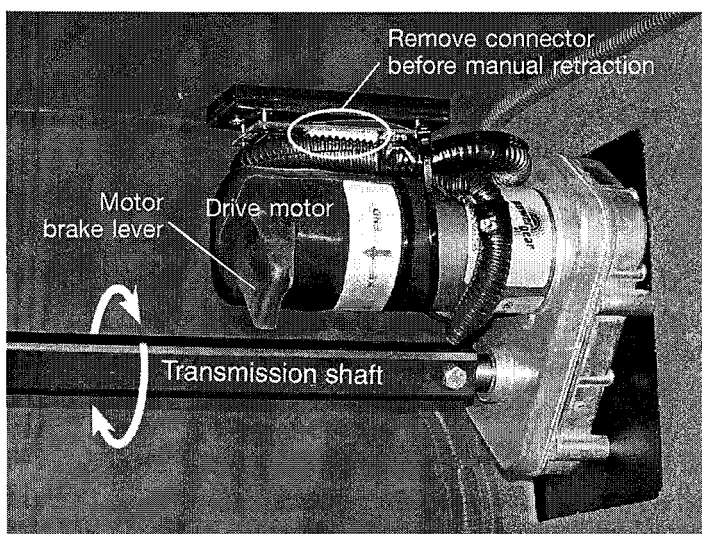

Figure 5.4
The Power Gear slide-out room hardware is equipped with an independent electrical system for each room, consisting of a powerful drive motor located in the passenger-side through bay for the galley slide and in the corresponding driver-side bay for the living room slide-out room (**Figure 5.4**). Using a common transmission shaft and pinion gears, the room is moved along on two sets of racks. This enables smooth and even extension/retraction of the room. The switches for extension/retraction are located on the monitor panel in the galley area.
- 1 Access the Power Gear slide-out room motor in the storage bay and release the brake lever on the end of the motor. To free the mechanism, you must switch the lever to the brake release position (counterclockwise, facing the motor). See **Figure 5.4** (page 5.6).
- 2 Disconnect the red and black power lead wires extending from the motor that terminate in a small white Amp plug connector as indicated in **Figure 5.4**.